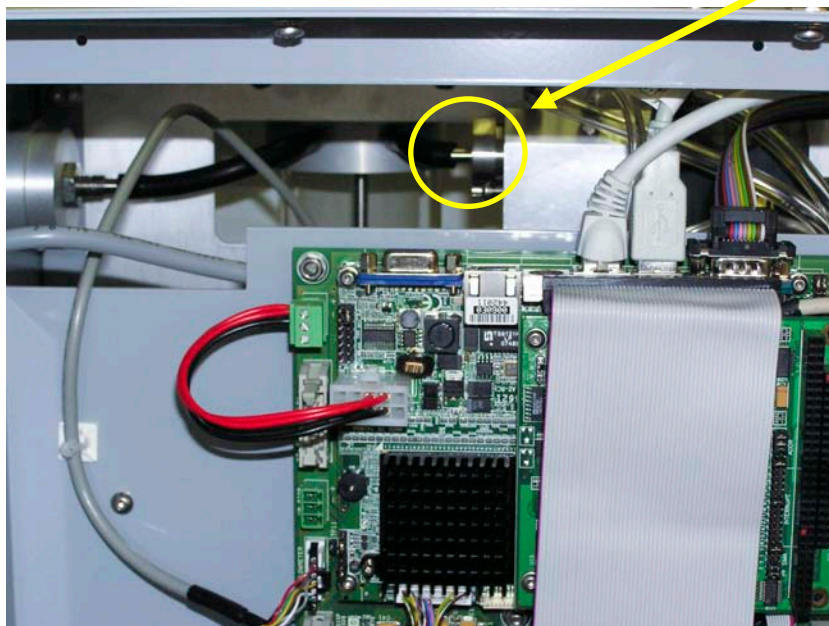

Figure 6-6
3. Access the instrument from the left side and locate the inlet orifice as shown in Figure 6-6.